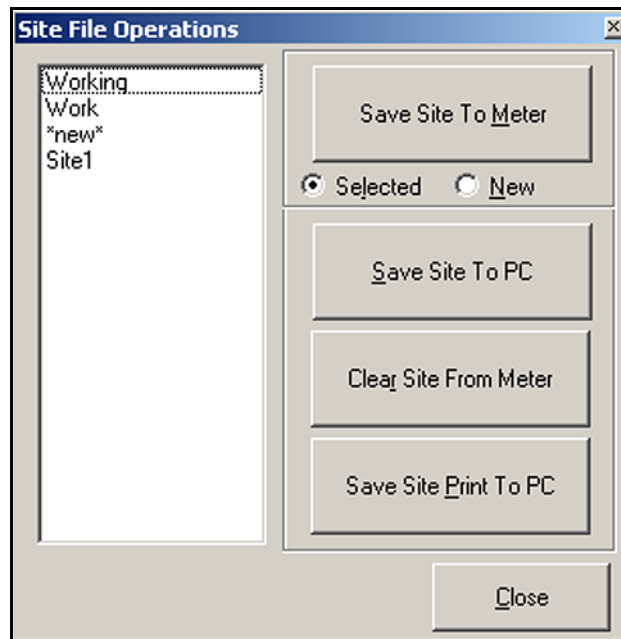

Figure 30: Site File Operations Screen
To access your site files, click on the *Site Files* button in the *Properties* Screen to open the *Site File Operations* screen shown in *Figure 30* below.
1. Highlight the desired site file in the left pane (see *Figure 30 on page 113*).
1. Highlight the site file in the left pane (see *Figure 30 on page 113*).